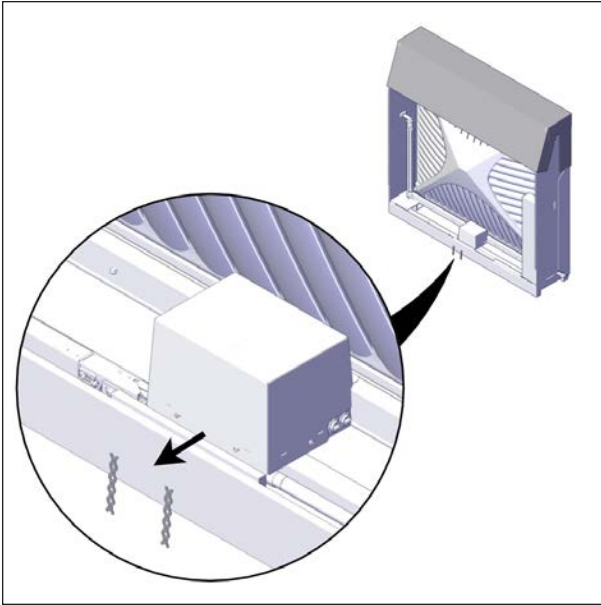

FIGURE 21: MOTOR FRAME ASSEMBLY REMOVAL
7. Use a flat screwdriver to remove the metal strapping holding the operator in place see Figure 21.